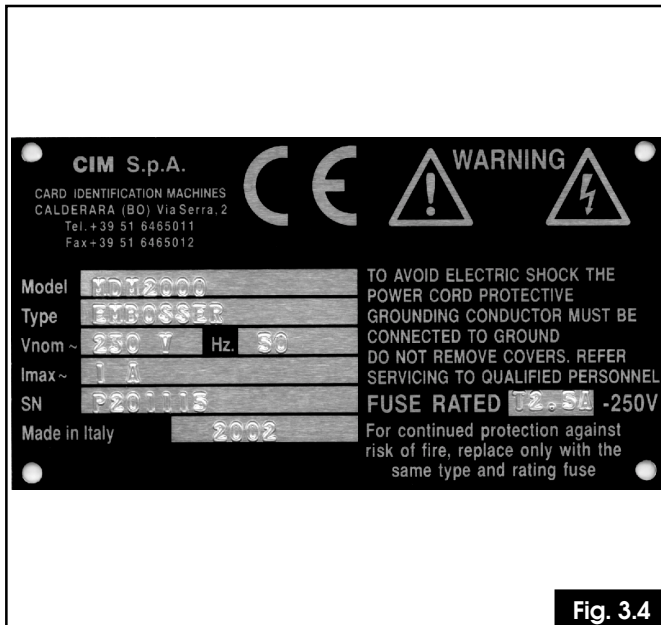

Fig. 3.4
- Before switching the machine on be sure that all the cables have been connected correctly and that the local power supply corresponds to that stated on the plate. The plate layout is as follows: (ref. figure 3.4).